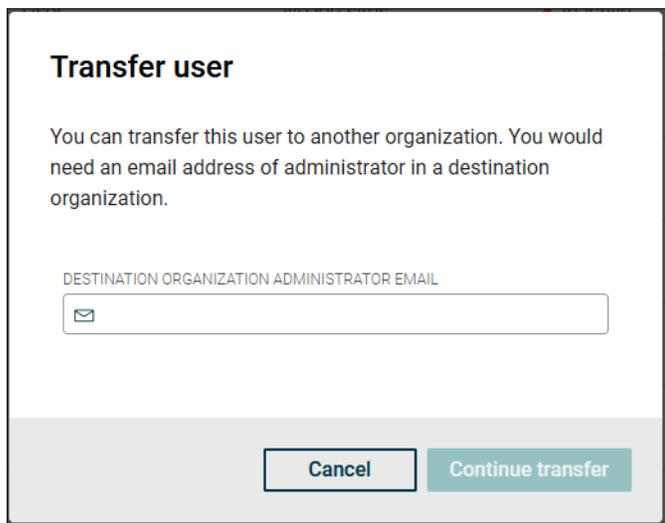

Figure 67. Transfer User 2
5. The “Transfer user” window will appear, type in the Destination Organization Administrator e-mail. See **Figure 67**.